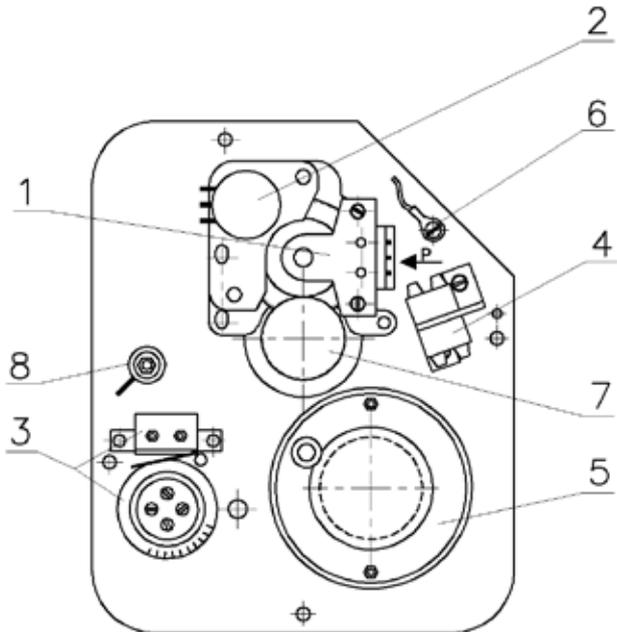

Fig. 1 - Control panel (type no. 52 325)
- **Control section** which is identical for all MODACT MOKA actuators (Fig. 2), Types MOKA 125 to MOKA 1000 Type No., with the only exception that, it differs in angular displacement of units on the base plate. In the actuator, Type No. 52 325, the unit of position-limit signalling switches is arranged as shown in Fig 1. The control section consists of position-limit switching unit 1, resistance position transmitter 2, torque-limit switching unit 3, terminal block 4 and anti condensation heater 8.
The anti-condensation heater 8 (Fig.1, 2) prevents water vapours from condensing under the cover of the control section. The position-limit switching unit and the position transmitter derive their movements from the output shaft of the actuator via a driving gear (or in the actuators, Type Nos 52 326 and 52 327, via driving segment 7, as shown in Fig 1). The torque-limit switching unit is driven by a "floating worm" of the manual control mechanism where the worm displacement is directly proportional to the torque of the actuator output shaft. This enables the actuator to be switched off immediately the torque on the output shaft to which the torque-limit switching unit has been adjusted, is reached.
Loosening will be done by turning the releasing screw counter-clockwise. Turn the releasing screw only until the cam is released. By further turning of the releasing screw, you would tighten the cam again. Numbers of relevant releasing screws are on a holder of position unit (Fig. 1) and they correspond to markings on a cam shaft.